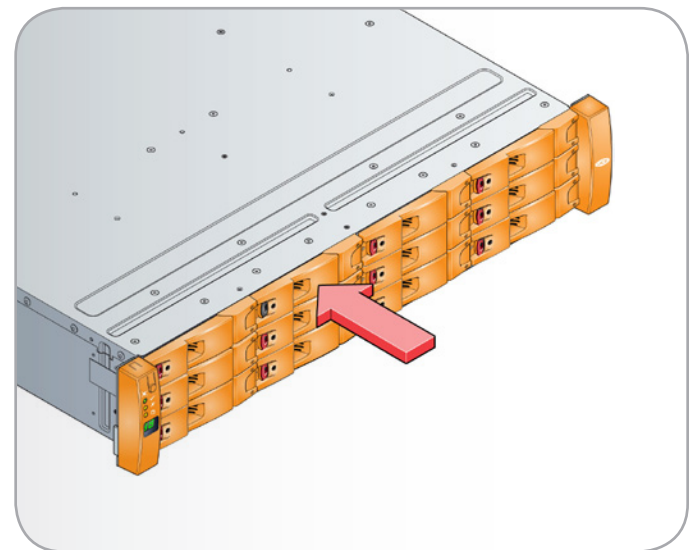

Fig. 38 - Securing the Drive Carrier Module
- Secure the drive carrier by closing the handle until it fully engages. A click should be heard as the latch engages and holds the handle closed (Fig. 38).
2. Slide the module into the enclosure (Fig. 38).